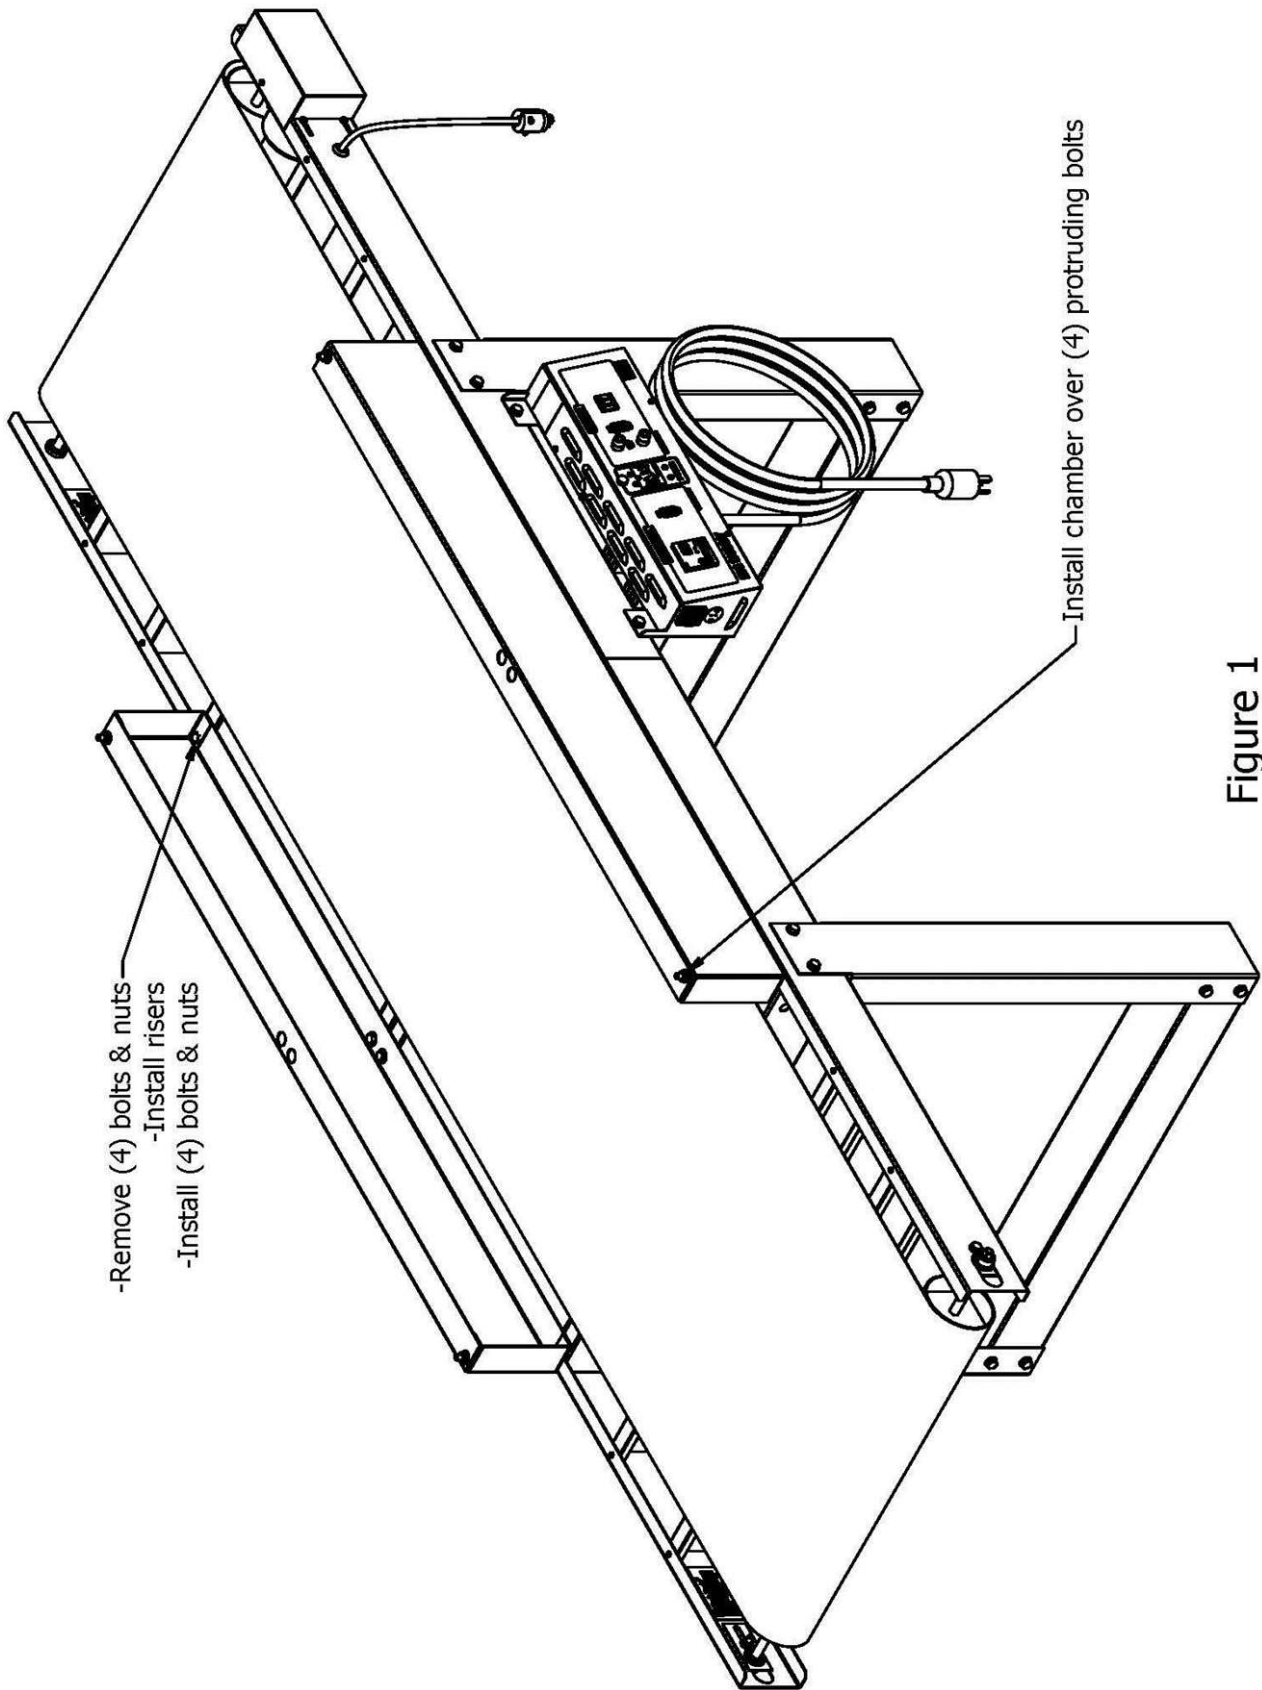

Figure 1
3. Remove (4) nuts and bolts from Conveyor Bed. See Figure 1.
4. Install Risers with (4) bolts & nuts to conveyor. See Figure 1.
5. Install Chamber over (4) protruding bolts.